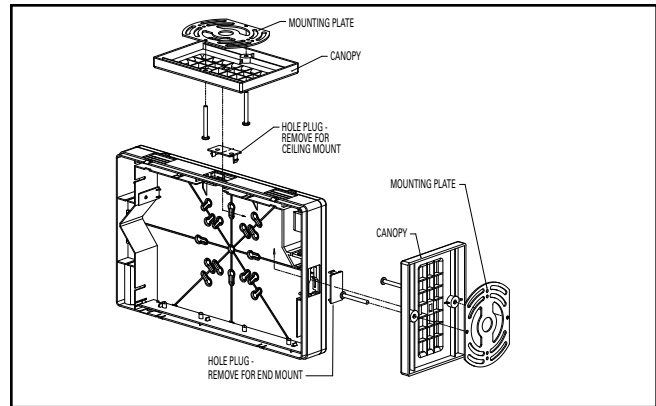

Figure 1
3. If ceiling or end mounting, remove the appropriate hole plug and snap in the canopy by sliding it in the keyhole opening. Place the canopy nose through the mounting hole until the side of the frame touches the canopy. Lock the frame onto the canopy by sliding the frame in a direction parallel to the canopy length toward the narrow end of the mounting hole. Slide the frame until both snaps engage the canopy nose preventing any motion back out of the hole. See Figure 1.